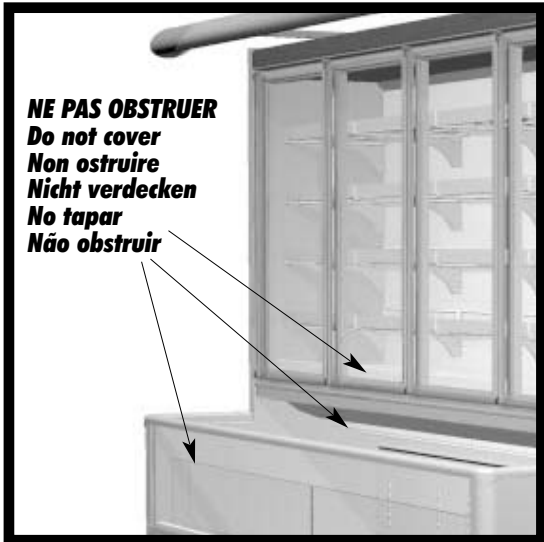

fig. 9
- products do not cover the slots that ensure the correct circulation of cool air (see fig. 9, page 6).